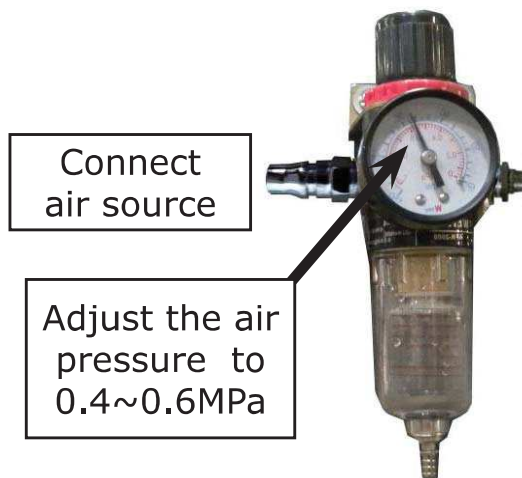

Fig. 17
4. Connect the air source (air pressure $5\text{kg/cm}^2\text{-}8\text{kg/cm}^2$). Adjust the air pressure to $0.4\sim 0.6\text{MPa}$ (See Fig. 17).